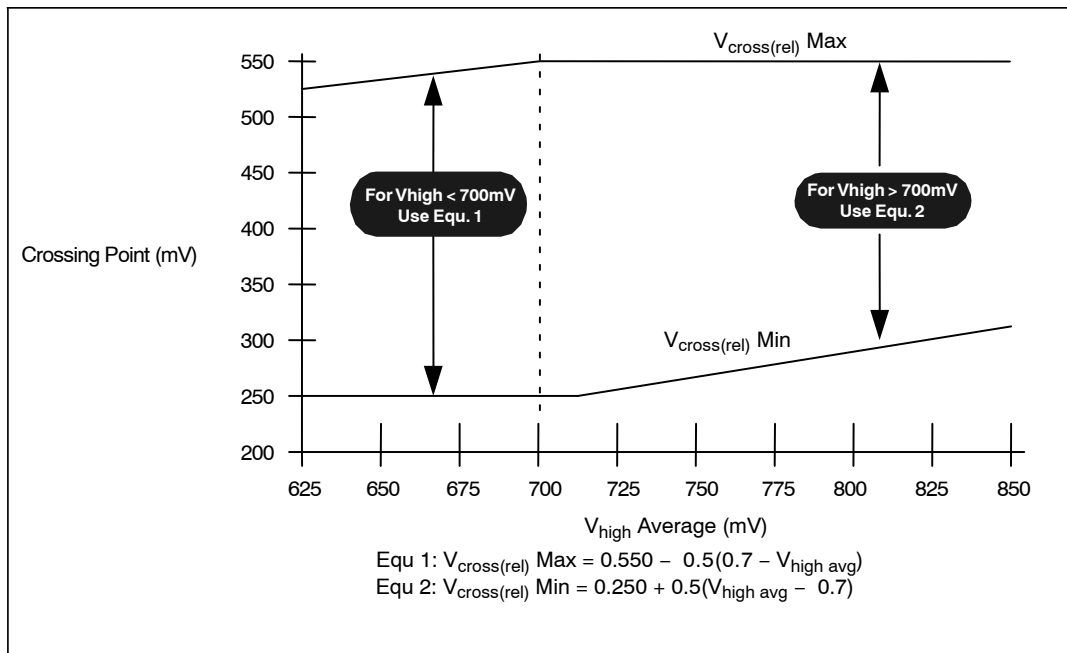

Figure 16. V_{cross} Range Clarification (Note 36)
16. Vcross(rel) Min and Max are derived using the following, $V_{cross(rel)}\text{ Min} = 0.250 + 0.5 (V_{high\ avg} - 0.700)$. $V_{cross(rel)}\text{ Max} = 0.550 - 0.5 (0.700 - V_{high\ avg})$. (see Figure 16 for further clarification).